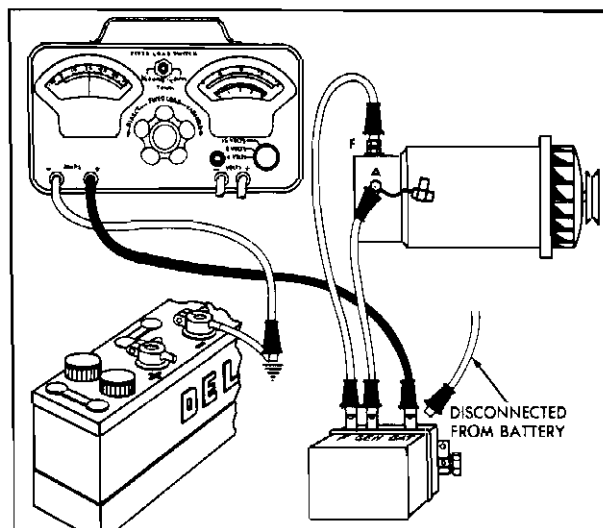

Fig. 11-19 Current Regulator Adjustment
2. Connect the Volts-Ampere Tester with control knob locked in "FIXED LOAD" position, as shown in Fig. 11-19 (Voltmeter leads not used).